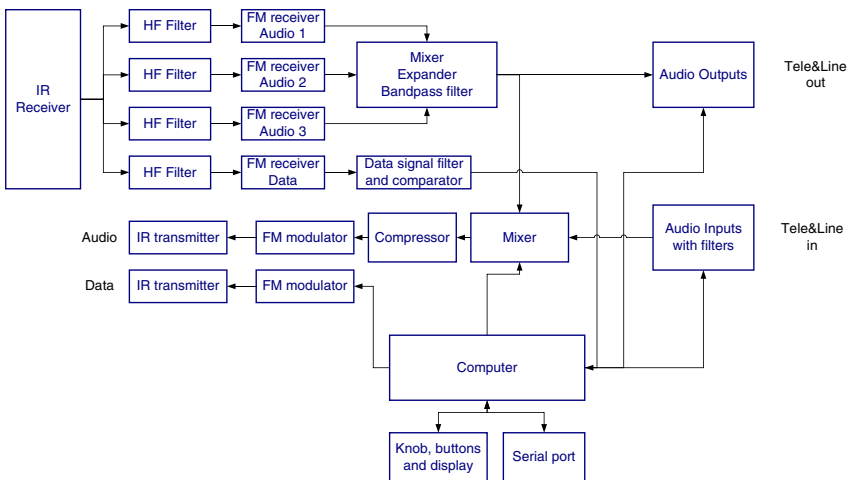

Figure 6.2 - Central Unit block diagram
Figure 6.2 shows a block diagram of the Central Unit (CU). The TU's sends the HF signal via cables down to the FM receivers where the signal is band-pass filtered and demodulated in four channels, Audio 1 to 3 and Data.